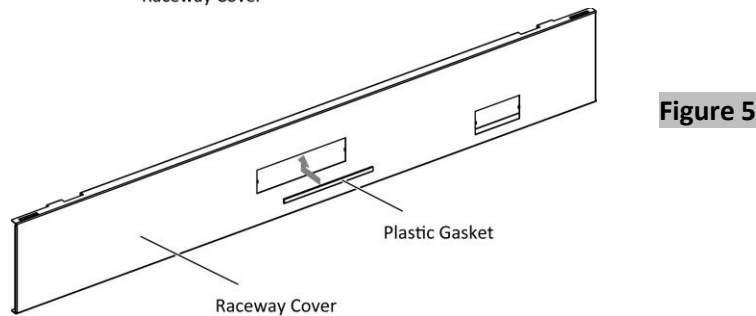

Figure 5
- 6. Insert the plastic gasket on the top edge of the outlet cover opening, (Figure 5).